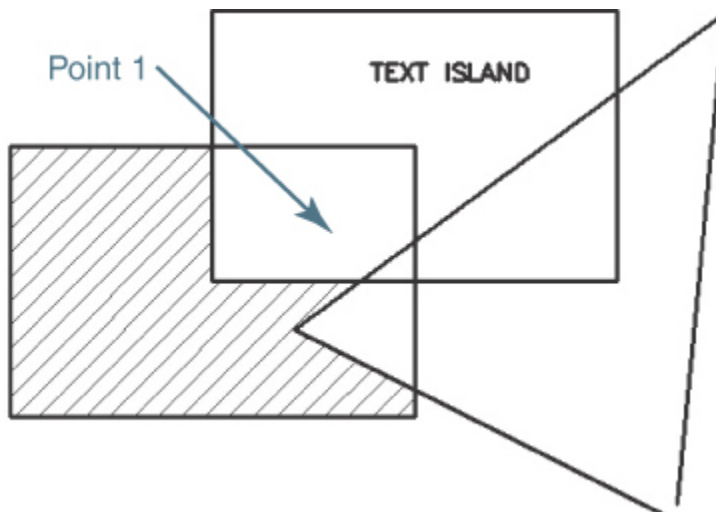

Figure 10-11
- 3 Select the **ANSI32** hatch pattern from the **Pattern** panel, and pick a point where indicated in Figure 10-11 to create the hatch pattern. **Do not** press **<Enter>** yet.